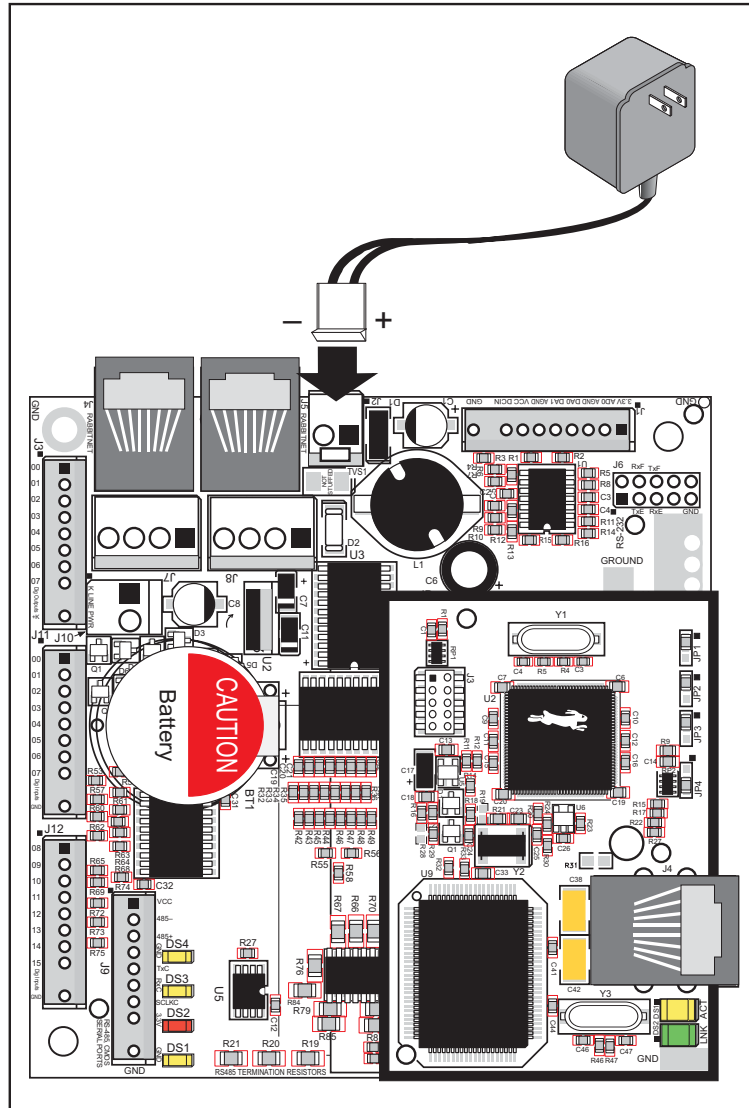

Figure 5. Power Supply Connections
2. Connect the AC adapter to header J2 on the BL2500 as shown in Figure 5. Match the friction lock tab on the friction-lock connector to the back of header J2 on the BL2500 as shown. The friction-lock connector will only fit one way.
Development Kits sold outside North America include a friction lock friction-lock connector that may be connected to header J2 on the BL2500. Connect the leads from your power supply to the friction-lock connector to preserve the polarity indicated in Figure 5. The power supply should deliver 8 V–40 V DC at 500 mA.